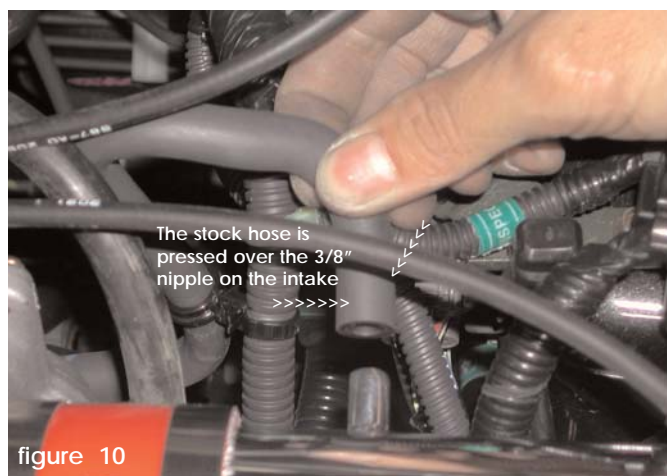

figure 10
- 8 Take the stock vacuum line located on the firewall side and press the hose over the 3/8" nipple on the intake. The 3/8" nipple is located on the opposite side of the 1/2" nipple. (See fig. 10)